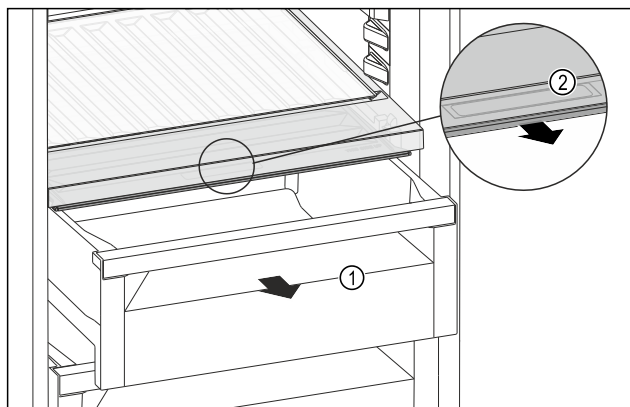

Fig. 219
- Pull out the drawer Fig. 219 (1).
- Grasp the recessed grip Fig. 219 (2) on the compartment lid and pull the compartment lid forwards at the same time.